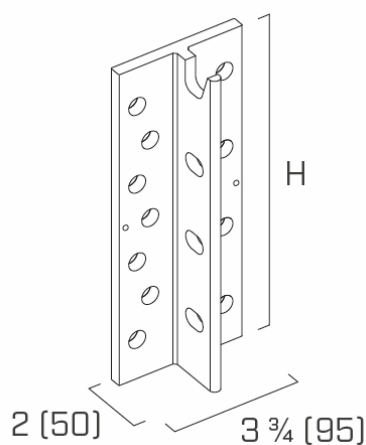

FIGURE 2—ALUMEGA HP CONNECTOR
3.1.1 ALUMEGA HP: The ALUMEGA HP connector flange has two staggered rows of 1/2-inch-round (13 mm) holes on either side of the stem and 3/16-inch-round (5 mm) holes for positioning screws. The stem has horizontal oblong holes spaced 2 3/8 inches (60 mm) on center. The primary fasteners are installed perpendicular to the face of the wood. See Figure 2 for a representative image of the connector.